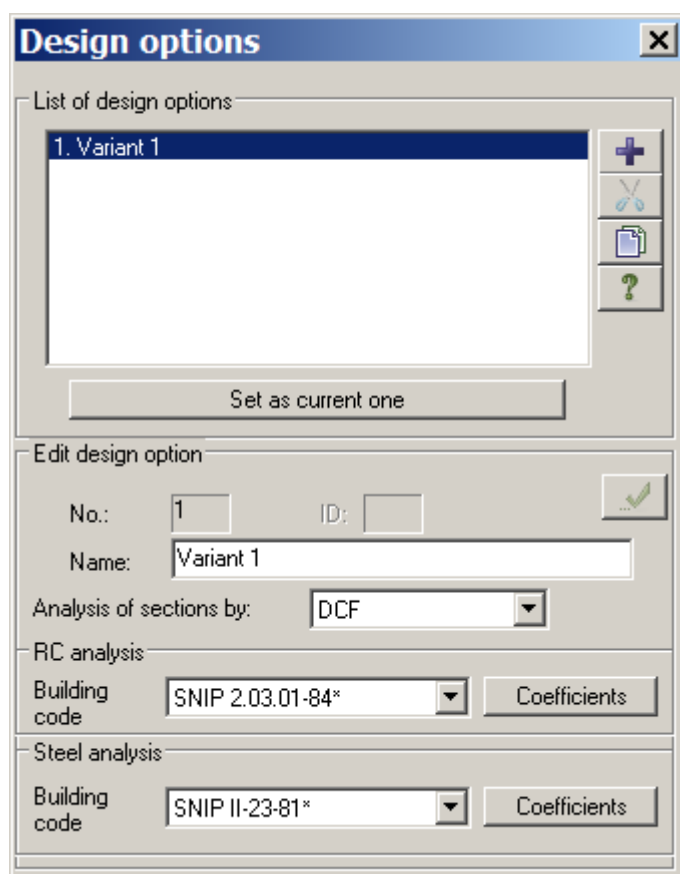

Figure 11.31 **Design options** dialog box
- ⇒ In the **Design options** dialog box (see Fig.11.31), define parameters for the first design option: